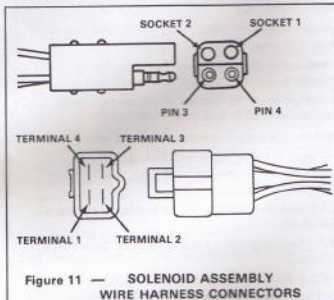

Figure 11 — SOLENOID ASSEMBLY WIRE HARNESS CONNECTORS
5. Connect a volt-ohmmeter to: (Refer to Figure 11)